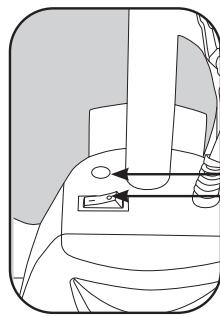

Fig. 5
1. To turn the vacuum on, push the switch located on the dust compartment to the (1) position (Fig. 5).
2. To turn the vacuum off, push the switch located on the dust compartment on the (0) position.
The full bag indicator is designed to show when the bag is full or when there is a clog in the vacuum. (Fig. 5).